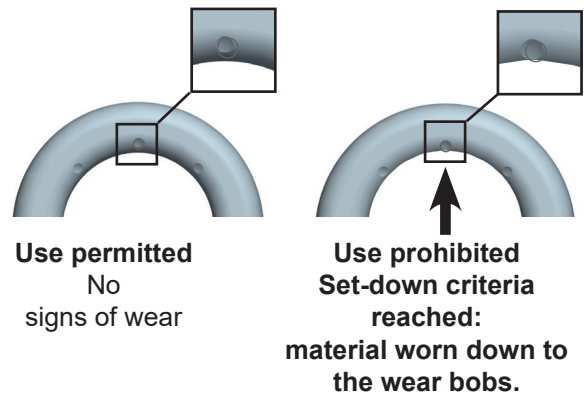

Fig. 19: Wear markings
- Carefully check the wear markings of the lashing point (see Fig. 19):